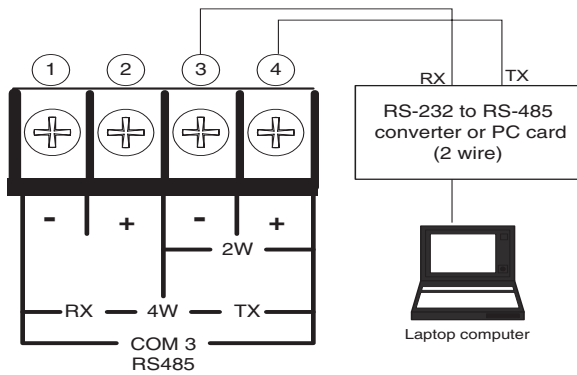

Figure 6-5 RS-485 2-Wire Testing
3. On the rear of the unit, connect a PC to the relay at terminals 3 (-) and 4 (+) using an RS-485 converter set for 2 wire operation. See Figure 6-5 for diagram.